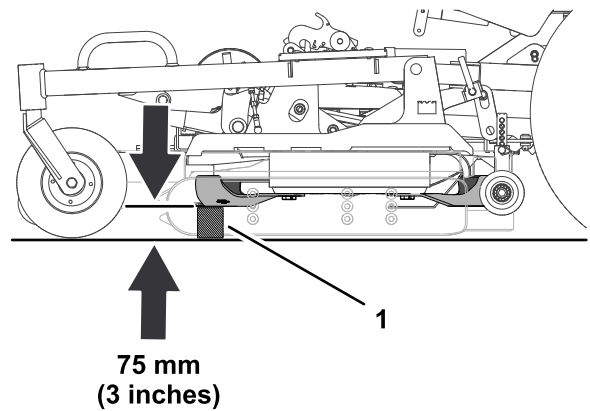

Figure 126
4. Measure the distance between the ground and the forward-most point of the blade cutting edge with a gauge block (Figure 126).